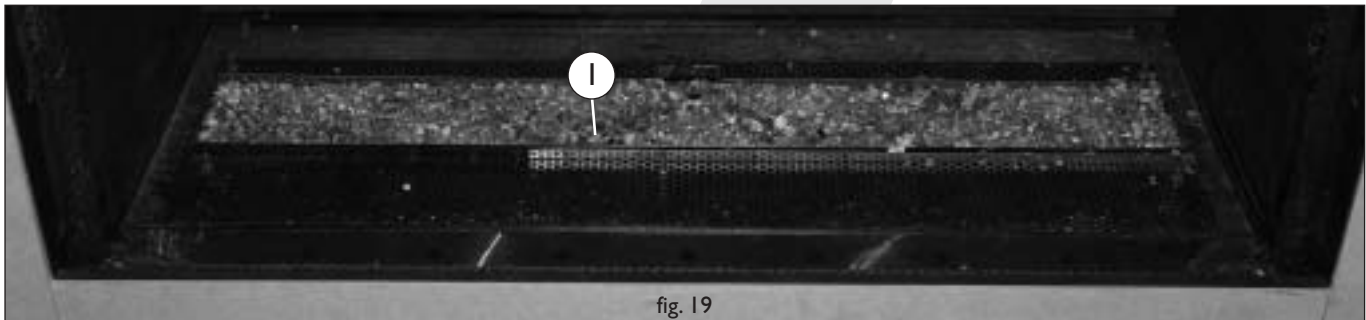

fig. 19
- Fill the burner tray with vermiculite (1) and distribute evenly, (fig. 19).